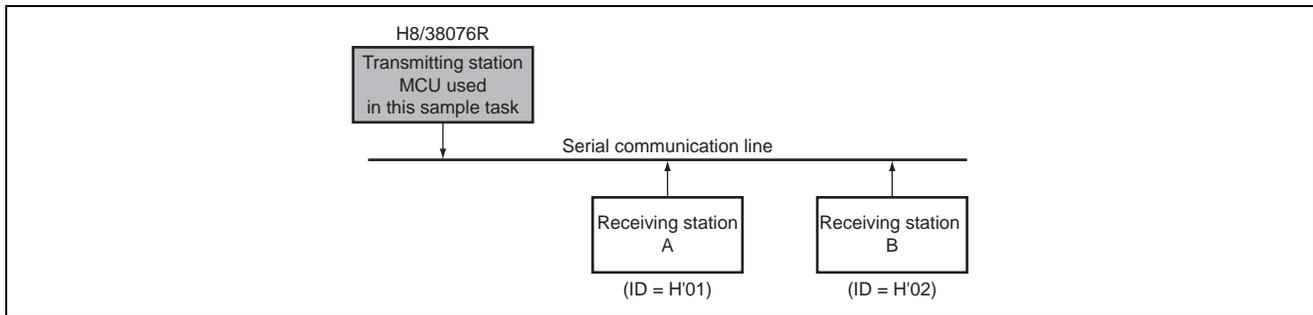

Figure 1 Communication Between Processors Using Data Transfer in Multiprocessor Format
- A sample connection diagram for communication between processors using data transfer in multiprocessor format is shown in figure 1.